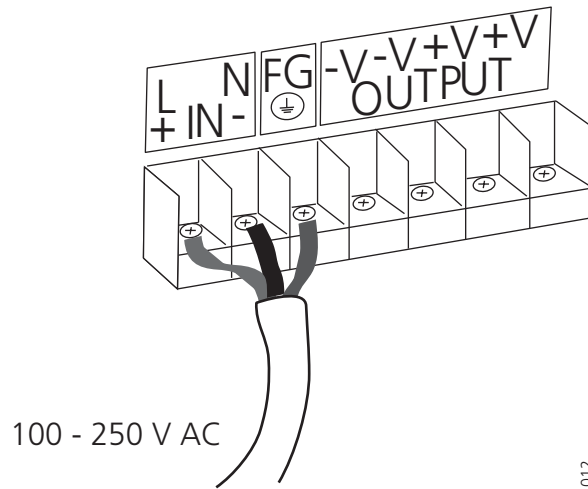

Figure 12. The mains power supply connection.
- 4 Connect the mains power supply cable onto the indicated positions on the connector, see figure 12.